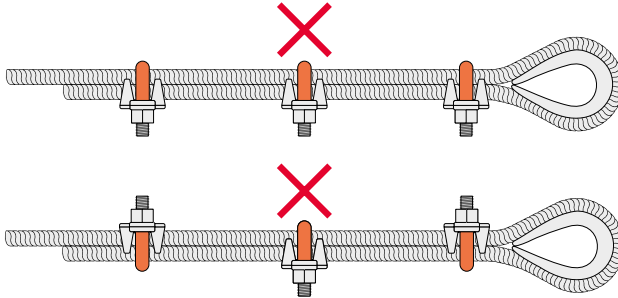

Figure 6.: "Never saddle a dead horse"
- Incorrect placement: Always place the saddle on the live end of the rope – "Never saddle a dead horse" (see Fig. 6).